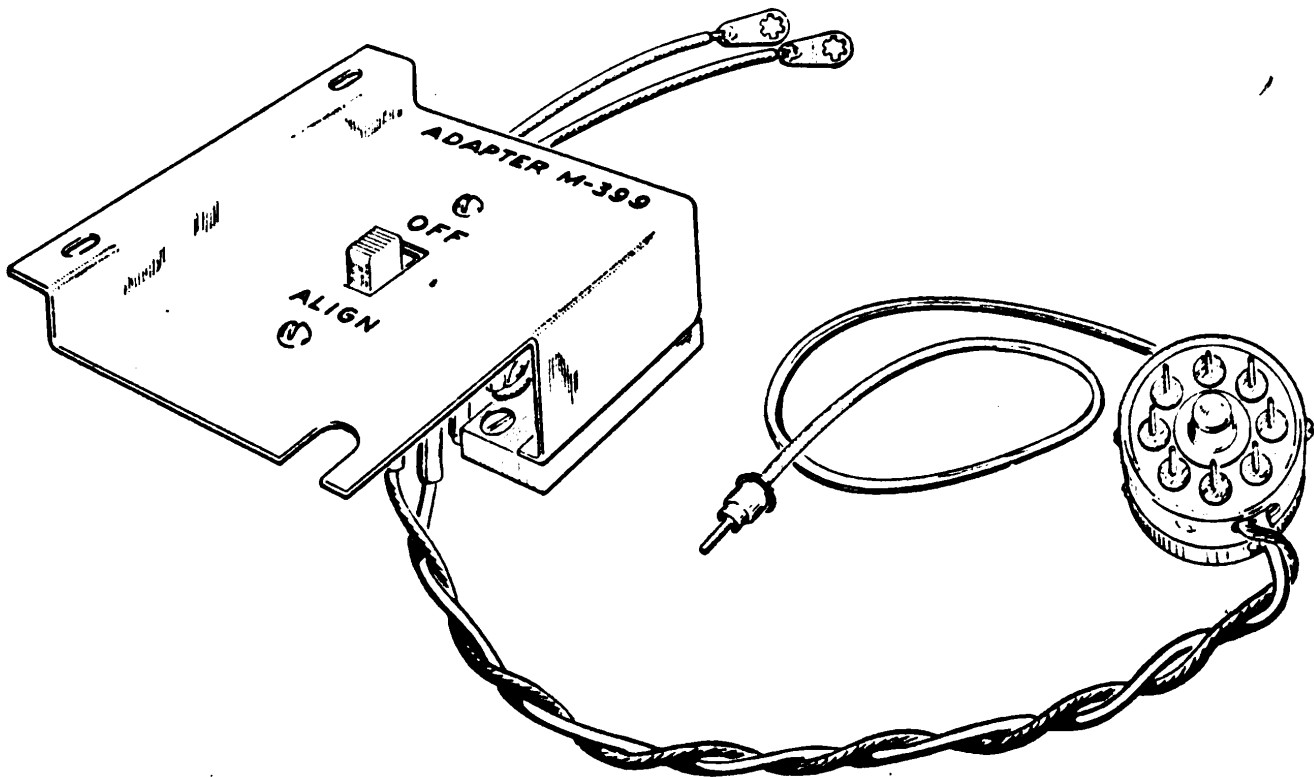

FIG. 4—ADAPTER M-399, TOP VIEW
(1) Adapter M-399 is used with Alignment Equipment ME-73 for aligning Radio Sets SCR-609-(*) and SCR-610-(*) .
(2) Adapter M-399, see Figs. 4 and 5, consists of a metal bracket on which is mounted a terminal block and a d.p.d.t., OFF ALIGN, slide switch that is connected to a separate tube-socket-adapter plug having a metering lead. The switch also is connected to the terminal block, and has two separate leads.
(3) The bracket of Adapter M-399 is designed for permanent installation in Receiver-Transmitter BC-659-(*) . When it is installed, and the connections made properly, the adapter switch at ALIGN converts the receiver amplifier stage of the set into a vacuum-tube-voltmeter circuit utilizing the panel meter of the set. This permits the changing of channels as well as complete alignment of the set without using an external meter. With the adapter switch at OFF, Adapter M-399 does not interfere with the ordinary use of the set.